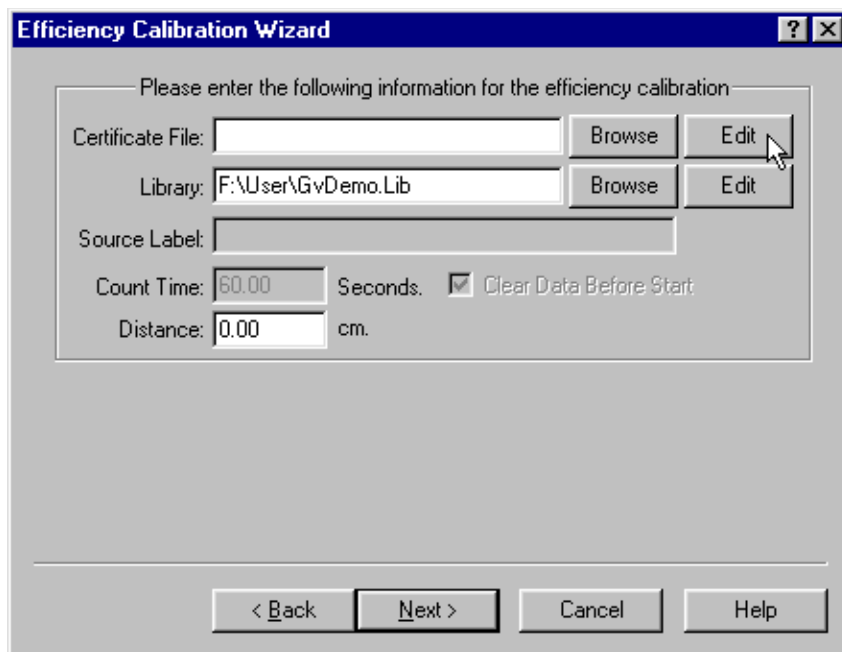

Figure 41. Click on Edit to Open a Blank Certificate File Editor.
5. The Efficiency Calibration Wizard screen (Fig. 41) will open. If necessary, browse for the proper **Library** file. Next, click on the **Edit** button beside the **Certificate File** field.